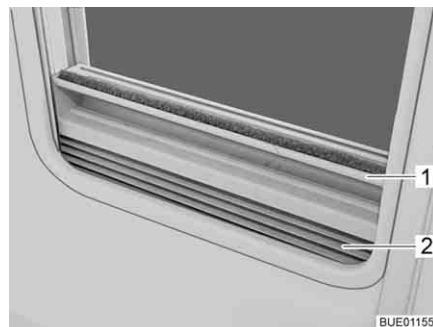

Fig. 38 Roman shade
- Closing:* ■ Grip the Roman shade (Fig. 38,2) in the middle of the holding bar (Fig. 38,1), pull it upwards and then release it at the desired height. The Roman shade will stay at this height.